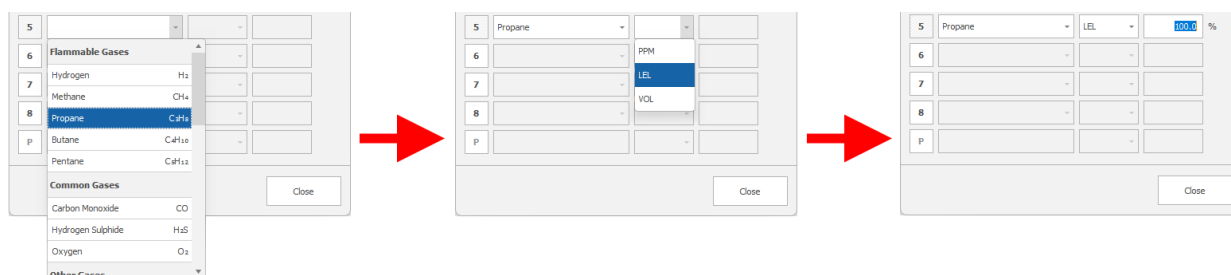

Figure 3-16: Adding gas range
5. To add a new calibration gas into the setup, click on the corresponding inlet number. This will trigger a drop-down list from which the desired gas range can be selected. After selecting the range, a subsequent drop-down list will appear allowing the specific gas concentration to be entered (as illustrated in Figure 3-16).